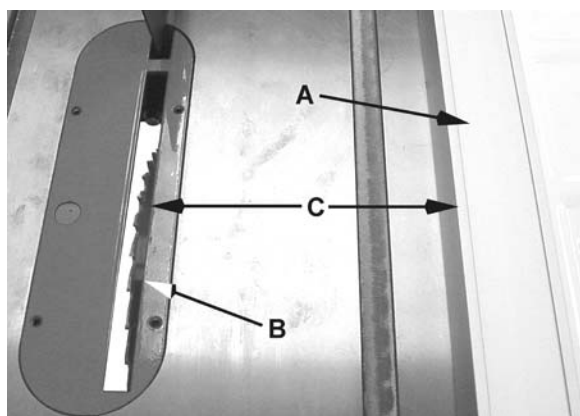

Figure 25
The *rip fence* (A, Fig. 25) should be set for the *width of the cut* (C, Fig. 25) by using the scale on the front rail, or by measuring the distance between the blade (B) and fence (A). Stand out